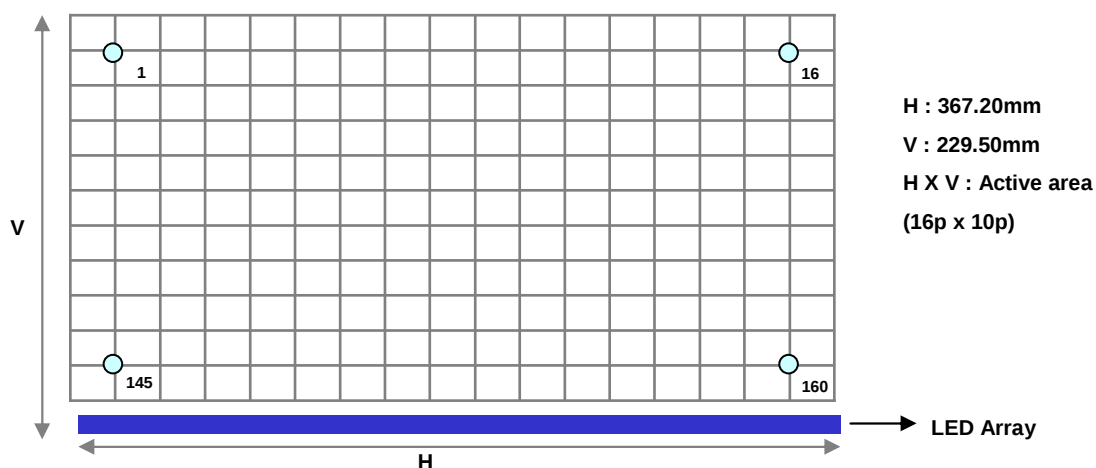

FIG. 3 Response Time
- Response time is the time required for the display to transition from white to black (rise time, Tr_R) and from black to white(Decay Time, Tr_D). For additional information see FIG 3.